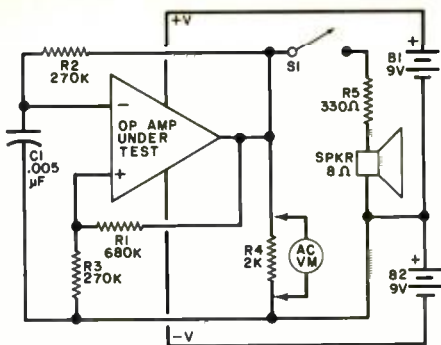

Fig. 1. Simple op amp tester has meter and audio outputs.
**Op-Amp Testing.** The first experiment to try with your op amp is shown schematically in Fig. 1. This is an op-amp test circuit, a multivibrator arrangement where the IC acts as a free-running oscillator that produces a square-wave output.
to that shown in Fig. 1, except that the value of  $C1$  has been greatly increased to slow down the repetition rate to about 1 Hz (1 pps). Display circuit A shows the addition of a conventional silicon diode and a LED (any color) that will pulse on with each positive-going portion of the oscillation pulse. The variation shown in circuit B employs two differently colored LED's. Arranged with silicon diodes, the LED's pulse on and off in step with the op amp's oscillator signal. (Note: some of the older type green and yellow LED's require more drive current than do red LED's, which means that they might not glow as brightly. If you use the newer GaP green or yellow LED's, you will encounter no difficulty in glow light level.) The two-color circuit can also serve as a polarity indicator for other circuits, if you assume the red LED to be on for one polarity and the green LED on for the other polarity.